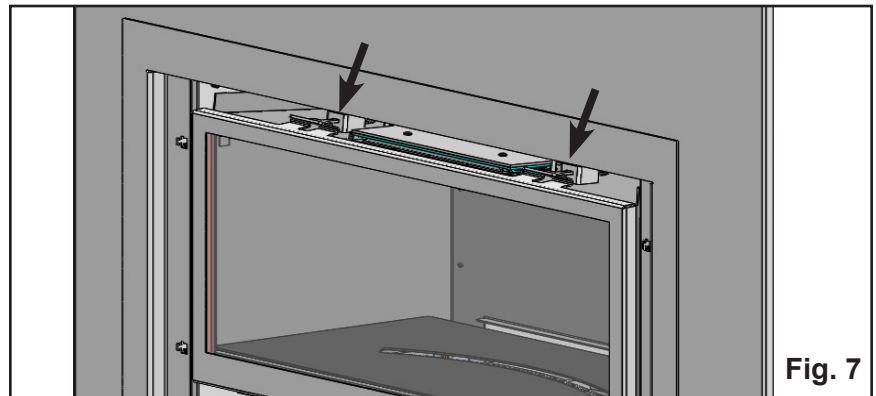

Fig. 7
3. Locate the x2 door latch mechanisms on top of the firebox (**Fig. 7**) and pull the tabs forward and up to release the door.